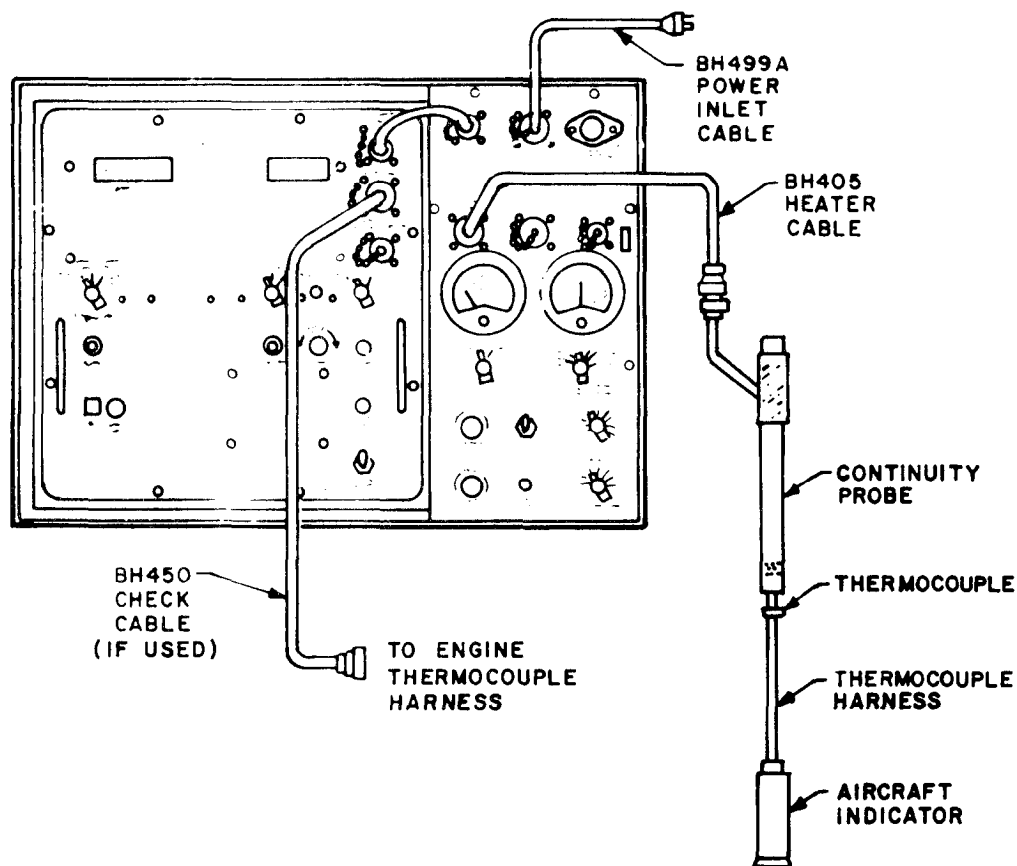

Figure 2-1. Thermocouple System Continuity Check Setup.
a. Thermocouple System Continuity (Heat Rise) Check. The continuity test checks continuity of aircraft thermocouple system by heating each engine thermocouple independently and checking for a temperature increase on aircraft temperature indicator. Refer to figure 2-1 and proceed as follows:
(1) Turn FUNCTION SELECT, STD DAY, and MASTER POWER switches to OFF position.